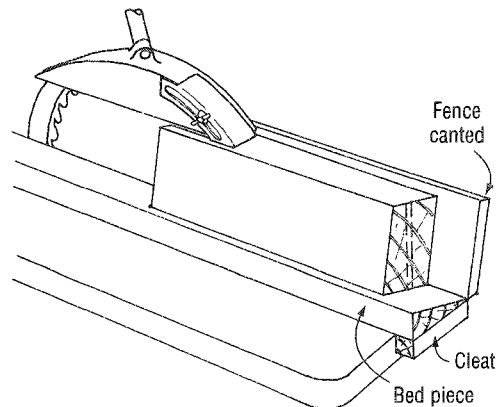
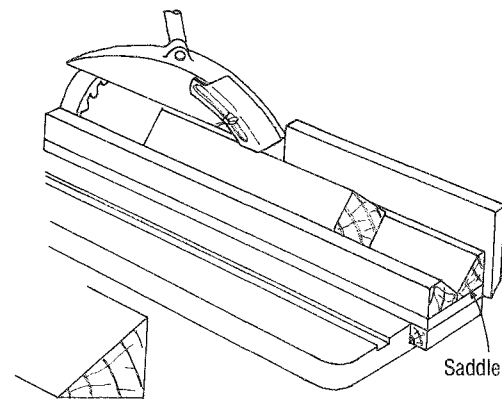

Fig. 1.23 Bevel ripping.
Fig. 1.24 Angle ripping.
4. Secondary functions are often carried out, usually involving some type of saddle or jig. The most common are bevel ripping (**Fig. 1.23**) and angle ripping (**Fig. 1.24**).